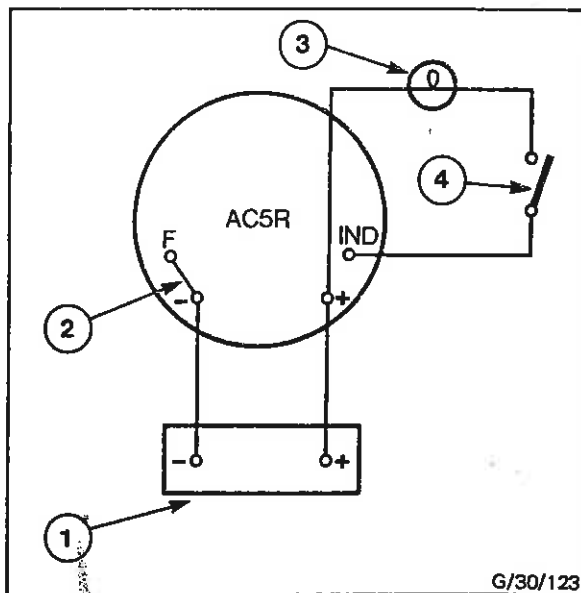

Fig. 87 - Preliminary Testing
4. Connect a test link between the brush box 'F' terminal and the alternator main '-ve' terminal - see Fig. 87.
5. As shown in Fig. 87, wire the alternator to a 12V or 24V battery as appropriate and connect a 12V or 24V 2W minimum warning lamp and switch between the alternator main '+ve' terminal and the alternator 'IND' terminal.